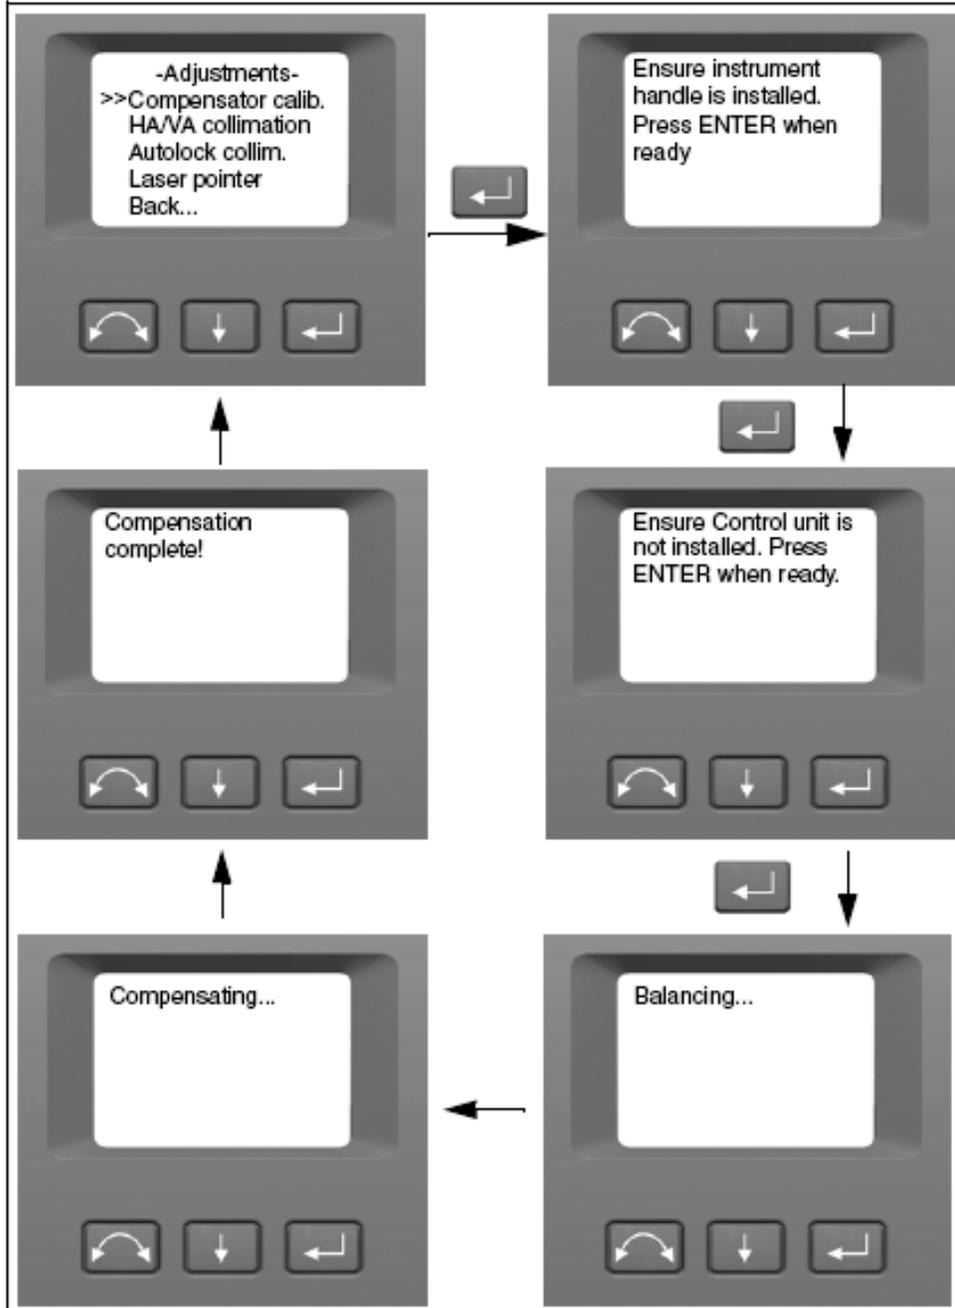

Figure 4.26 Compensator calibration routine
3. Follow the instructions in the display. figure 4.26.